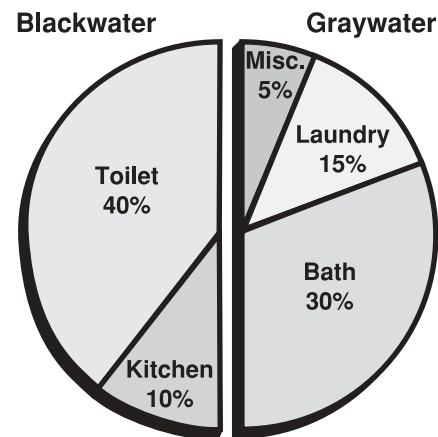

Figure 1. Wastewater from blackwater and graywater sources, by percentage.
**Blackwater** contains relatively higher concentrations of nitrogen, organic matter and human pathogens than does graywater. Blackwater includes flush water from toilets and urinals and wastewater from food preparation sinks. Fig. 1 illustrates average daily percentages of graywater and blackwater from various sources.